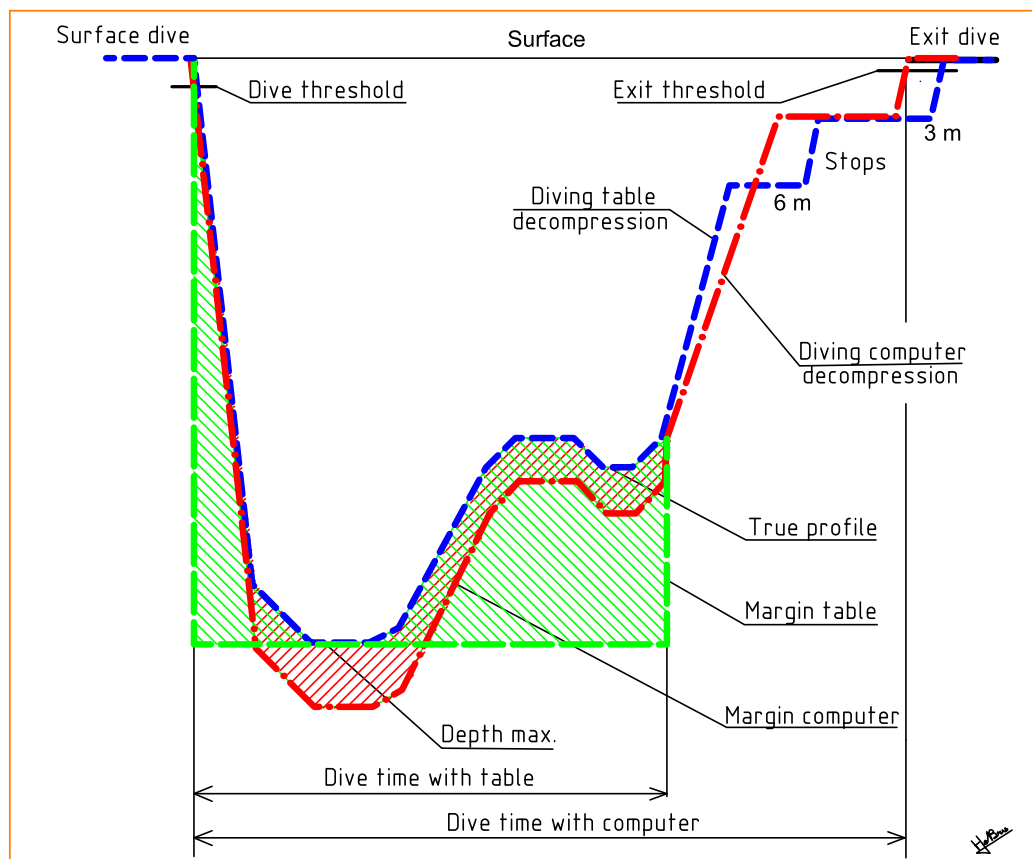

Figure 16 *Variable profile margins*
Diving tables and computers are often compared. This is not an easy task, as in practice these are two very different modes of decompression. First, it is important to know that some definitions are no longer applicable. Indeed the "duration of the dive" with the tables is the duration that separates the moment of immersion from the moment when one decides to go up; it results from a decision of the diver (See figure 16 below).
Comparing figures 16, 17 and 18 above, you can see that depending on the dive profile, the computer may require more or less steps than the dive tables. When the profile approaches a rectangle, the steps to follow with a computer increase and even exceed those required by the tables.
In figures 16,17 and 18, the hatched parts, in two different directions, show the margins taken for tables and computers. With the tables, it is considered that the diver has passed the entire dive to the maximum depth reached, which is rarely the case.
- It is easy to see that for dives with a rectangular profile, they usually require longer decompressions than tables (see and compare Figures 16, 17 and 18). (However, one can sometimes doubt theories that propose dives without step which, depending on the models, vary from 9 to 23 min for a depth of 30 meters).